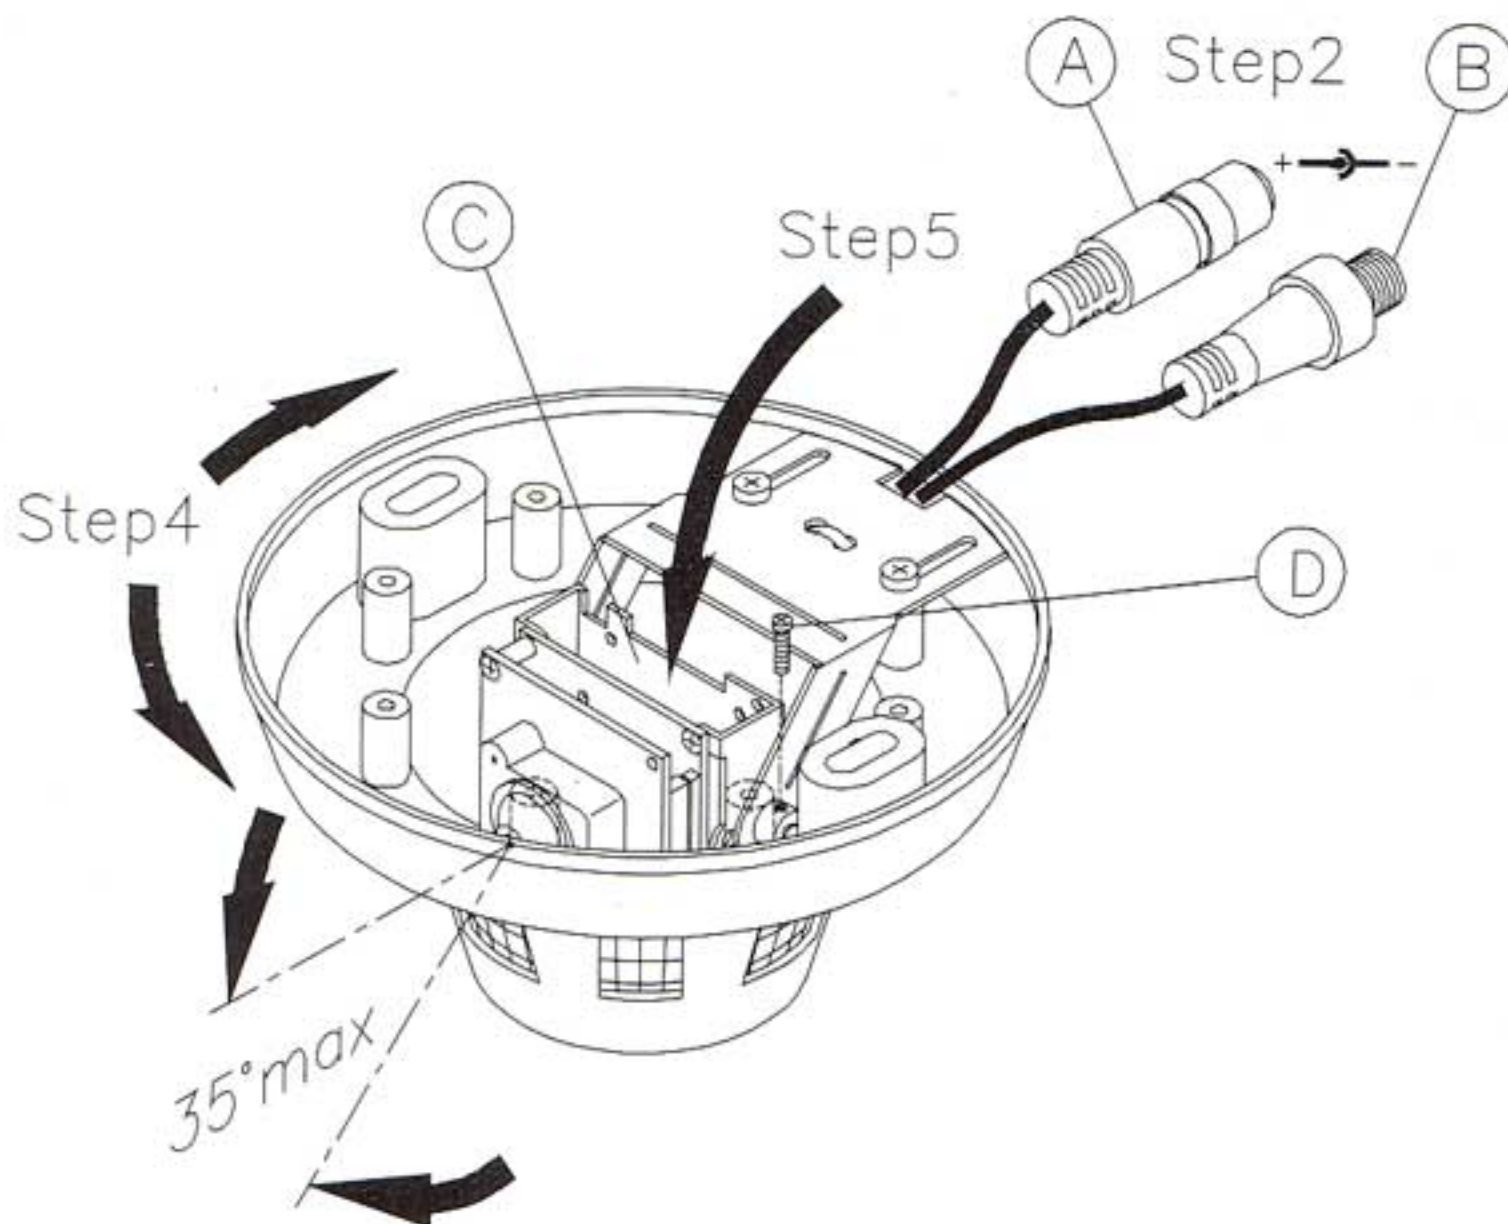

Figure 1 (Steps 1 through 5)
STEP 2: Connect the cables as follows: 12V DC to (A), Video Out to (B). (Ref. Figure 1)
STEP 4: While holding the unit in position, re-check the camera's horizontal sighting to ensure the unit's position is correct as placed in Step 1. (Ref. Figure 1)
STEP 5: If it is necessary to adjust the vertical view angle, do the following - Loosen screw (D) with a screwdriver. Turn the Camera Board (C) to the desired angle (you may use a portable monitor or communicate with the Master Control Room to make sure the view angle is correct). Tighten screw (D) to secure the vertical view angle. (Ref. Figure 1)